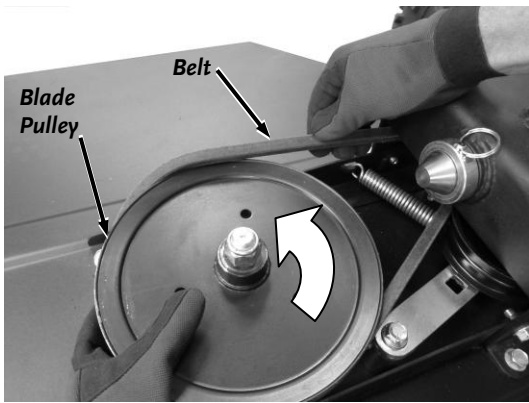

Figure 26
3. While rotating the Blade Pulley, roll the belt off of the Blade pulley (**Figure 26**).